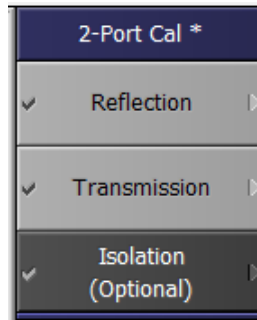

Fig. 20 - Full 2-port Calibration Steps Completed.
**\*Note: Full 2-port calibration is completed when ✓ is shown for Reflection, Transmission, Isolation, as depicted by figure 20.**